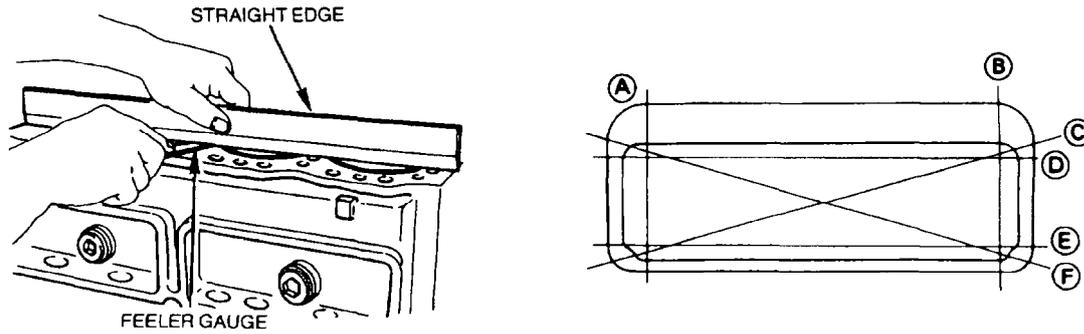

Figure 35 Checking for Engine Block Distortion
- f. Check the engine block deck for distortion, using a straight edge and a feeler gauge (Figure 35). If the distortion exceeds 0.2 mm (0.008 in) the engine block deck will require machining; however, the maximum allowable amount of metal that can be removed is 0.3 mm (0.012 in). If distortion cannot be corrected by removing the maximum amount of metal, discard the engine block.